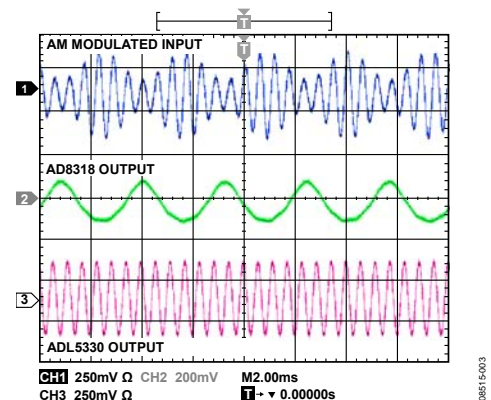

Figure 3. Oscilloscope Showing an AM Modulated Input Signal
For the AGC loop to remain in equilibrium, the AD8318 must track the envelope of the ADL5330 output signal and provide the necessary voltage levels to the ADL5330 gain control input. Figure 3 shows an oscilloscope measurement of the AGC loop depicted in Figure 1. A 100 MHz sine wave with 50% amplitude modulation (AM) is applied to the ADL5330. The output signal from the ADL5330 is a constant envelope sine wave with amplitude corresponding to a setpoint voltage at the AD8318 of 1.5 V. Figure 3 also shows the gain control response of the AD8318 to the changing input envelope.